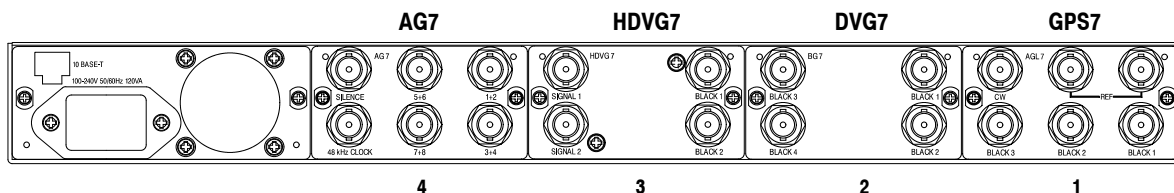

Figure 1: TG700 slot numbering
2. Select the slot you will use to install the module. Figure 1 shows a sample configuration with slot numbers.